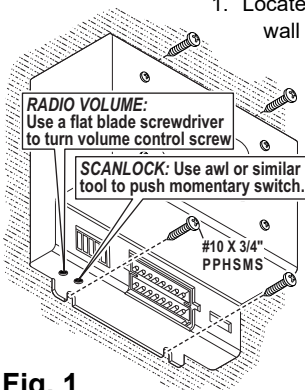

Fig. 1
5. Using the supplied #10 x 3/4" sheet metal screws, secure the remote amplifier to the vertical trunk wall (Fig. 1).
The volume adjustment screw controls the volume of the public address and radio functions and has no effect on siren tones. Volume is increased by rotating the screw clockwise and decreased by rotating it counter-clockwise. (See Figs. 1 & 2 for volume control location)
There are two important operational characteristics of the siren that can be re configured; Mode of Operation and Tone Selection. The Scan-Lock™ button is used to select the desired tone changes and the DIP Switches are used to select Mode of Operation. The Scan-Lock button can be activated with a pen or similar object. (See Fig. 1 for Scan-Lock™ button location)